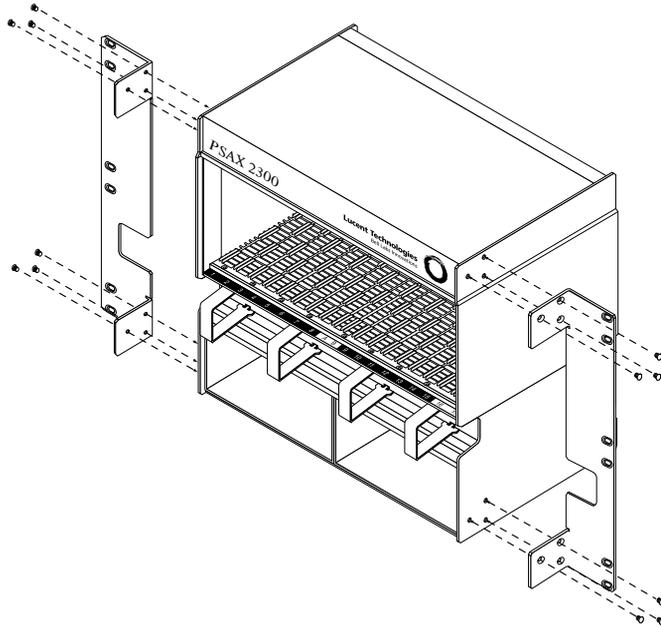

Figure 4. PSAX 2300 Chassis with Mid-Position-Mounted Wide Brackets to Be Installed in a 23-inch Rack
- Mounting angle brackets are placed in a position with frame-attaching flanges facing the rear for mid-position mounting in a telco frame. See Figure 4 for the positioning of the brackets.